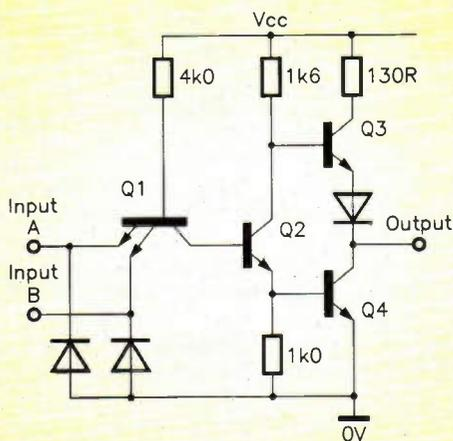

Figure 1. Circuit of a standard TTL 7400 2-input NAND gate.
**Standard TTL.** Similar to the basic type already described, except that each of its inputs is provided with a protection diode that helps suppress transients and speed up its switching action. Figure 1 shows the actual circuit of 7400 2-input NAND gate; its power consumption is 10mW, and its propagation delay is 9ns when driving a 15pF/400Ω load.
**Low-power (L) TTL (now obsolete).** A mod-